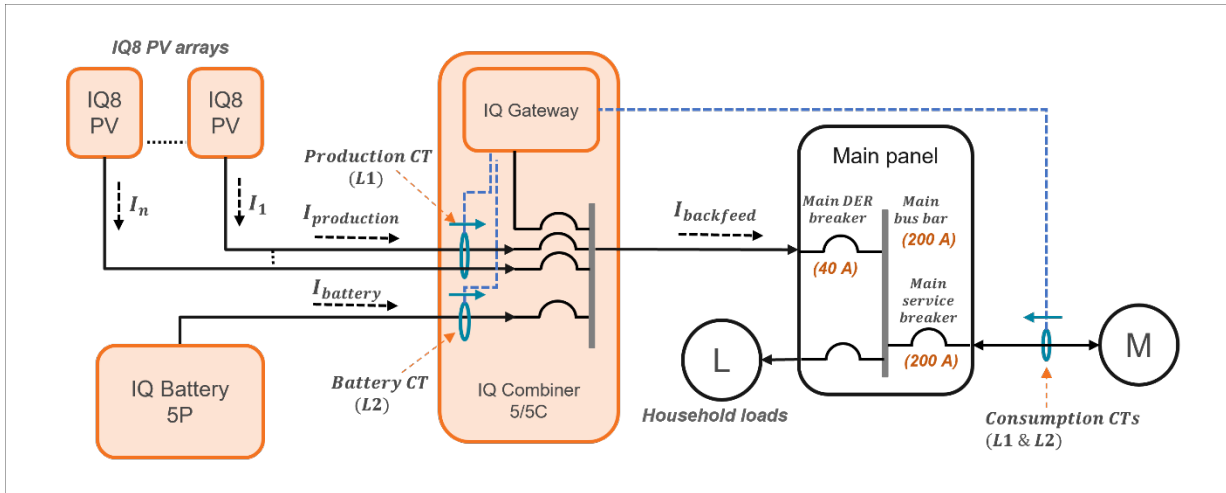

Figure 14: MPU avoidance in grid-tied configuration
This feature in the grid-tied configuration is demonstrated in Figure 14.
In Figure 14, both Production CT and battery CT are monitored, and the battery discharge is controlled first, followed by the PV production current to limit $I_{backfeed}$ entering the main DER breaker in the main panel. The main DER breaker must be sized to the PCS limit as per NEC 2020 705.13 (C).
For example, as seen in Figure 14, if the main load panel busbar size is 200 A and the grid-side main service breaker size is also 200 A, the maximum continuous current backfeed allowable from the IQ Combiner to the main panel, $I_{production}$, is limited to:
For example, in Figure 14, $I_{backfeed}$ allowed is 32 A. If $I_{production}$ is 0 A, the maximum allowed $I_{battery}$ is 32 A. However, consider a scenario in Figure 14 where IQ Battery oversubscription is enabled with the Battery breaker on IQ Combiner as 20 A. $I_{backfeed}$ allowed remains 32 A, but if $I_{production}$ is 0 A, the maximum allowed $I_{battery}$ is 16 A.